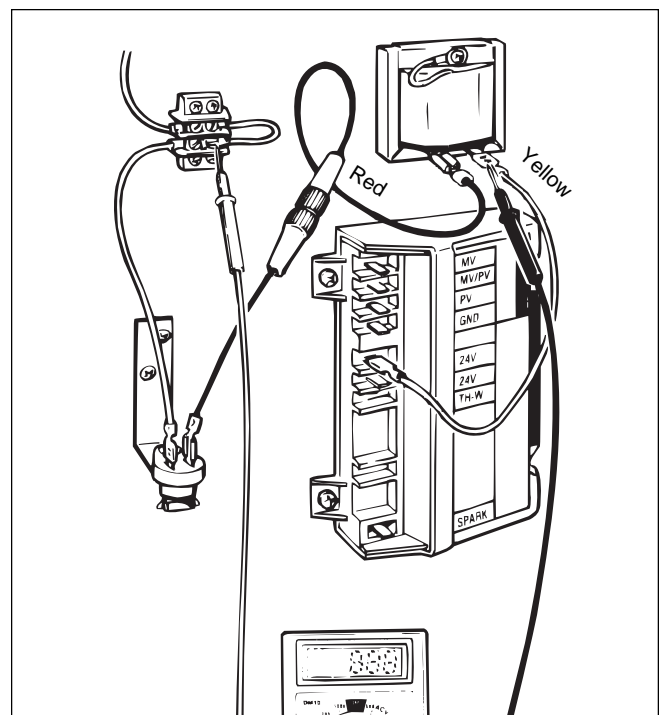

Figure 37. Testing the fusible link.
1. Touch the voltmeter lead to the lower terminal on the terminal block (see Figure 37).